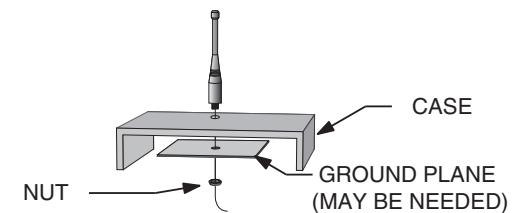

Figure 23: Remote Ground Plane
6. In some applications, it is advantageous to place the module and antenna away from the main equipment (Figure 23). This can avoid interference problems and allows the antenna to be oriented for optimum performance. Always use 50Ω coax, like RG-174, for the remote feed.